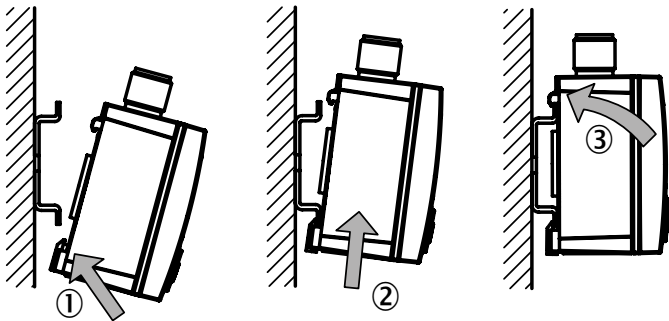

Figure 7: Installation on the mounting rail
- To install the PAC50, position the lower fixing guide on the mounting rail (see Figure 7 ①) and tilt the PAC50 up until it locks into place (see Figure 7 ② and ③).